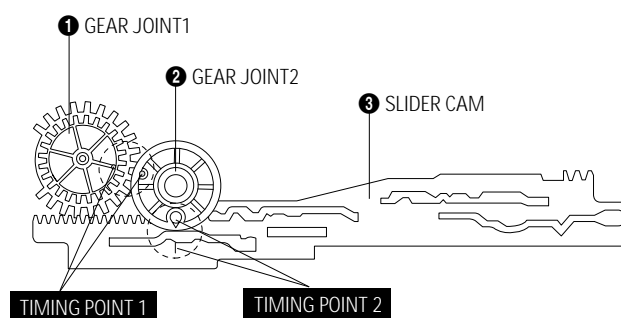

Fig. 4-17 Gear Joint 1,2 Assembly
- 1) Be sure to align dot mark of Gear Joint 1 ❶ with dot mark of Gear Joint 2 ❷ as shown Fig 4-17. (Refer to Timing point1)
- 2) Confirm the Timing Point 2 of the Gear Joint 2 ❷ and Slider Cam ❸.